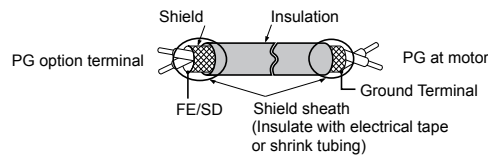
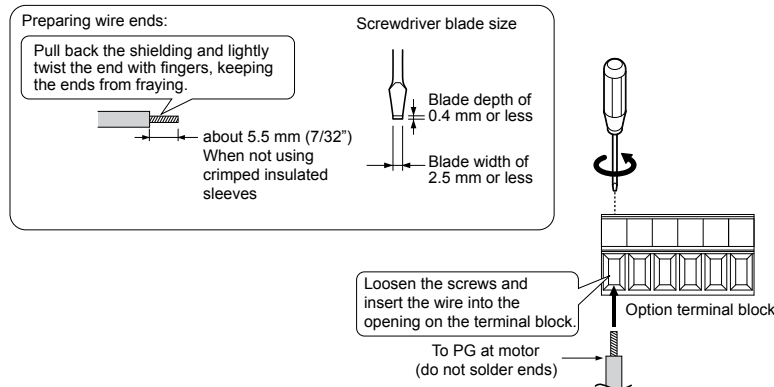

Figure 8.6 Preparing Ends of Shielded Cable
Figure 8.7 Preparing and Connecting Cable Wiring
- 3.** Prepare and connect the wire ends as shown in Figure 8.6 and Figure 8.7. Refer to Wire Gauges and Tightening Torques of PG-B3 and PG-X3 Options on page 447 to confirm that the proper tightening torque is applied to each terminal. Take particular precaution to ensure that each wire is properly connected and that wire insulation is not accidentally pinched into electrical terminals.